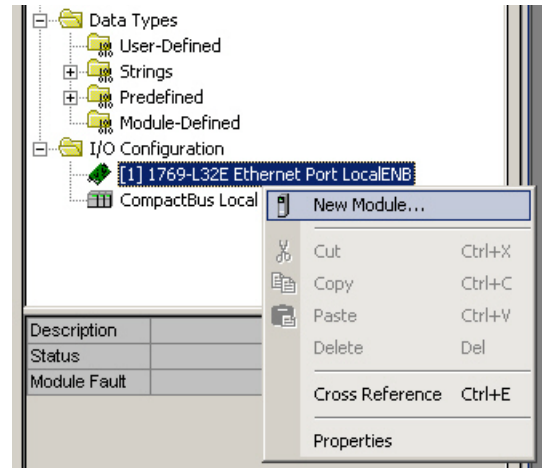

Figure 7.3 Adding an SMD23E
- 1) As shown in figure 7.3 on the right, the Ethernet port will be listed under the I/O Configuration tree. Right click on the port and then click on “New Module...” in the pop-up menu.